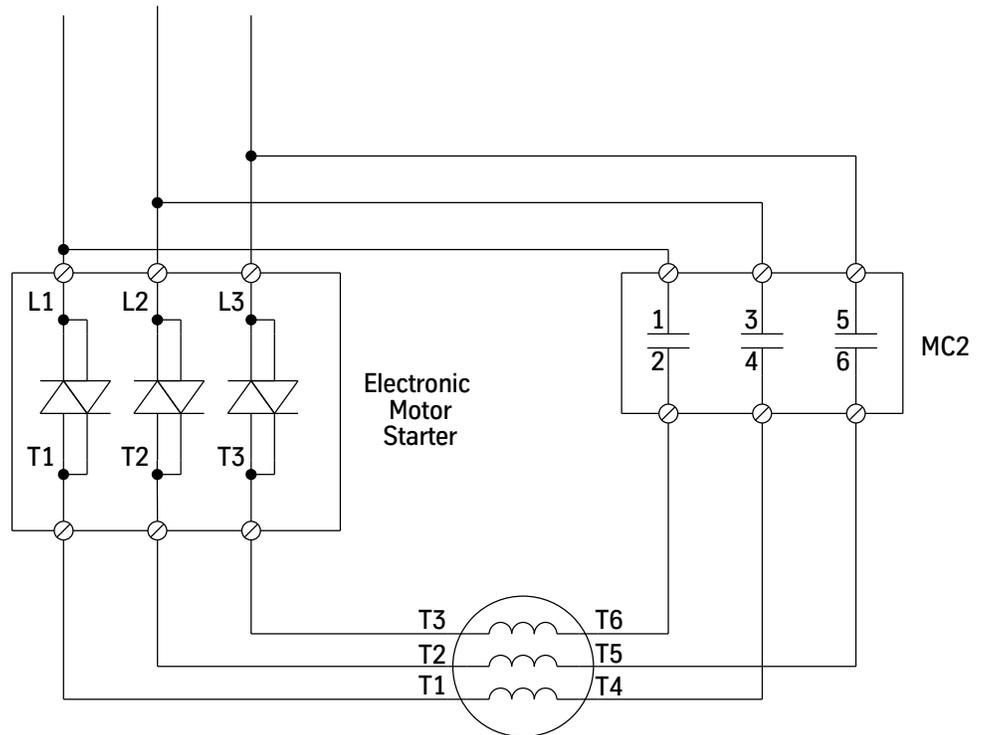

Figure 11 - Electronic Starter Pump Motor Wiring Diagram
3. Verify the correct motor wiring. See Figure 11 on page 1-14.